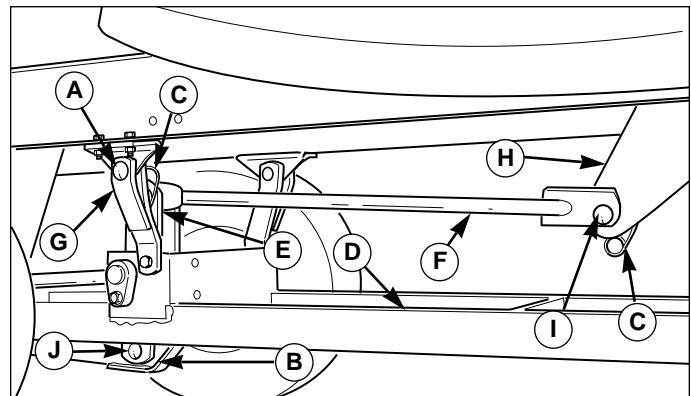

Figure 39. Lift Rod
3. Attach the front end of the ladder hitch (D, Figure 39) to the front hitch brackets using two 1/2 x 1-1/2" round head clevis pins (A) and safety clips (C).
1. If not already done, attach the lift rod (F, Figure 39) to the hitch lift arm (E) using a 1/2 x 2" flat head clevis pin and safety clip.
2. Attach the lift rod (F, Figure 39) to the attachment lift extension (H) using a 5/8 x 1-5/8" flat head clevis pin (I) and safety clip (C).
4. See Figure 39. Attach the dozer lift arm (B) to the hitch lift arm (E) using a clevis pin and safety clip.